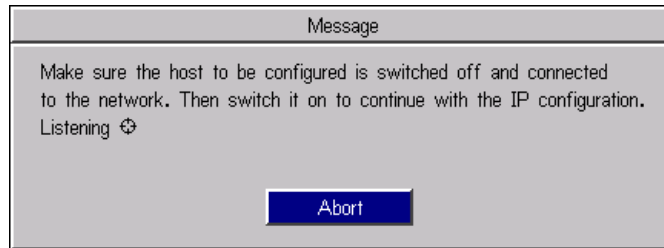

Figure 2-7: IP Configuration Message Box
- 10 Click **OK**. The message box shown in Figure 2-7 appears.